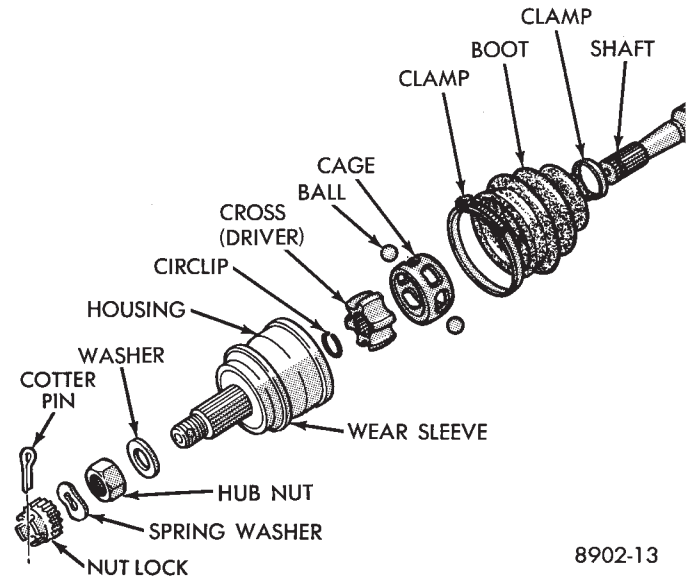
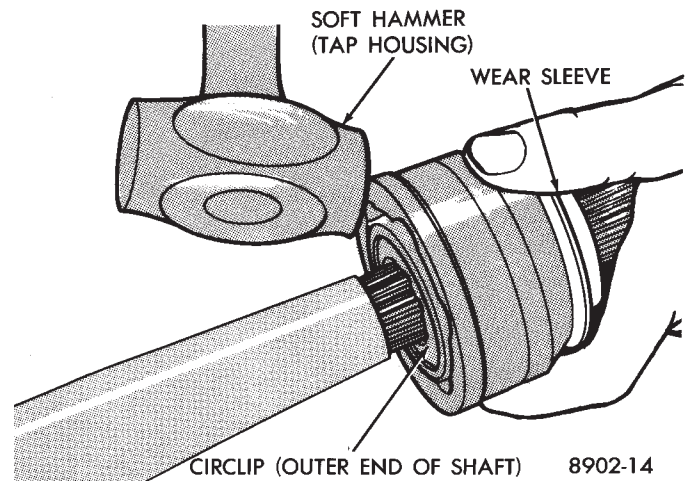

Fig. 1 Outer C/V Joint Components
Fig. 2 Remove Joint from Shaft .
(1) Remove boot clamps on boot and discard (Fig. 1).
(2) Wipe away grease to expose joint.
(3) G.K.N. Remove outer C/V Joint from shaft by supporting the interconnecting shaft in a vise. **Use protective caps on the jaws of the vise to prevent damage to the interconnecting shaft.** Give a sharp tap to the top of housing to dislodge joint from internal circlip installed in a groove at the outer end of the shaft (Fig. 2).
A wear sleeve installed on the outer C/V joint housing (Fig. 1) provides a wipe surface for the hub bearing seal (installed in the steering knuckle).